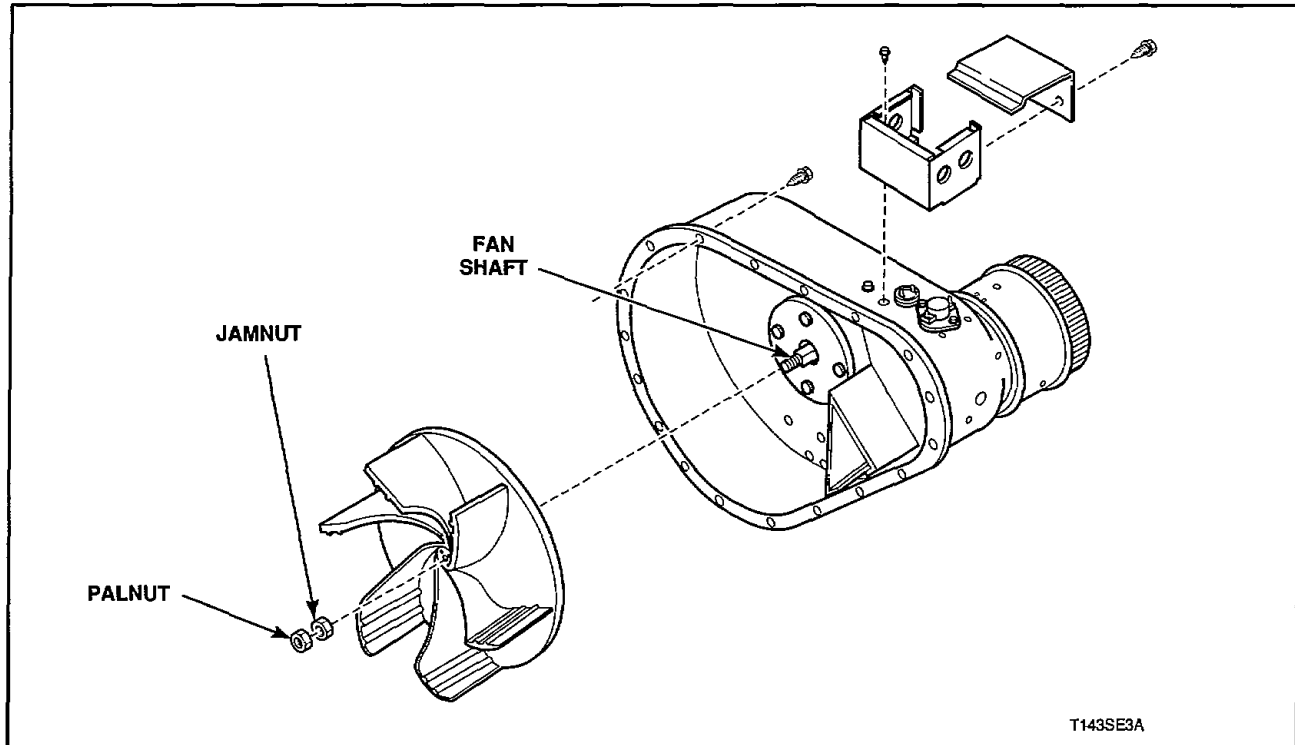

Figure 26
- h. With fan housing assembly off cabinet, hold fan while loosening palnut and jamnut, *Figure 26*.
32. FAN BEARING, SHAFT AND HOUSING ASSEMBLY (Figure 26)